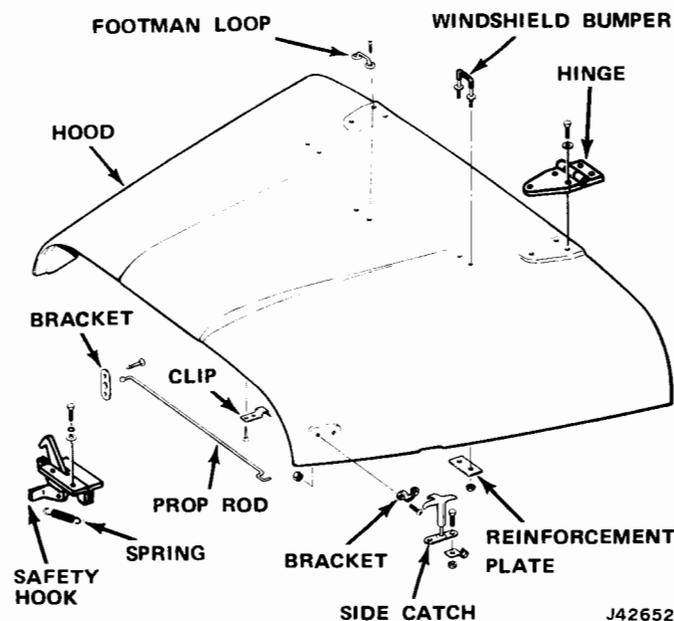

Fig. 14-14 Hood and Related Parts—CJ Models
(1) Mark position of hinges on their respective mounting panels before removing hood.
(2) Detach hood panel from hinges by removing attaching bolts, lockwashers, and flat washers.
(3) Disassembly of CJ hood is accomplished by removing hood prop rod, hood prop rod retainer clip, hood side catch brackets, footman loop, and windshield bumpers (fig. 14-14).